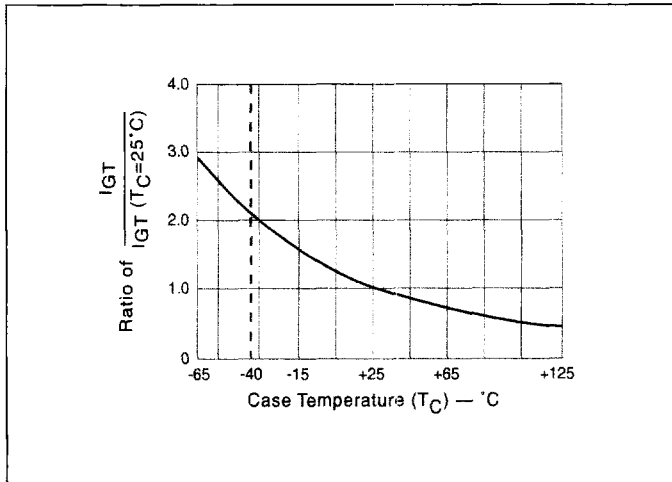

Figure 4.8 Normalized DC Gate Trigger Current for all Quadrants vs Case Temperature
- (7) See Figure 4.8 for  $I_{GT}$  vs  $T_C$ .